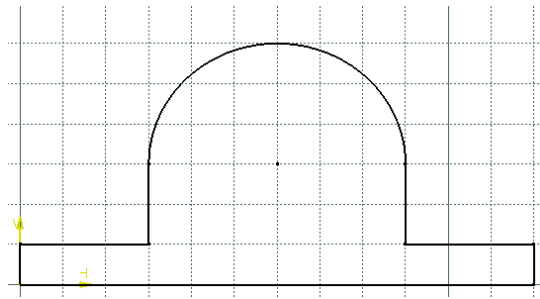

Figure 2-37 The sketch after drawing the outer loop
- Draw the sketch of the model using the **Profile** and **Circle** tools, refer to Figures 2-37 and 2-38.
The sketch after drawing the outer loop is shown in Figure 2-37. In this figure, the constraints are hidden for better visualization.